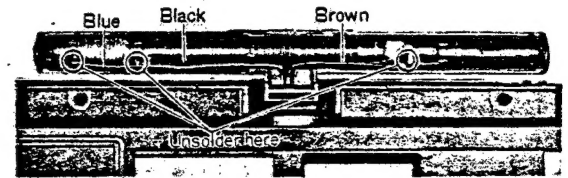

Fig. 10
2. Unsolder lead wires from ferrite antenna, as shown in fig. 10.